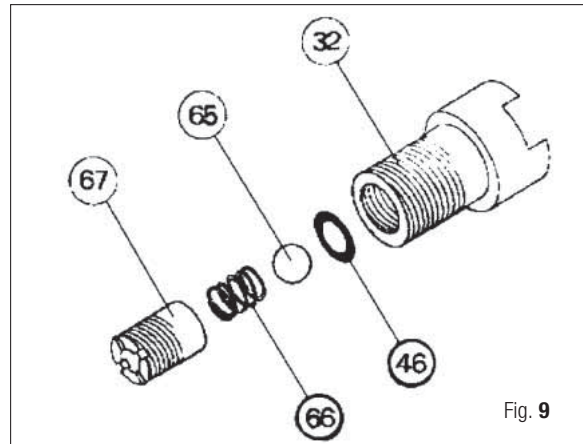

Fig. 9
28. With a Philips screwdriver, remove the inlet bushing (67) and spring (66) (Fig. 9).
29. Remove ball (65) from the inlet valve body (32).
30. Remove O-ring (46) from the inlet valve body.
31. Slide handle (41) rearward off of the barrel (26).
32. Remove O-ring (37) from O-ring seat (39) of the power adjustment rod.
33. With a 7 mm wrench, unscrew power adjustment rod (34-35-37-39) from power adjustment lever (38).
21. Position o-ring (46) in inlet valve body (32) seat, with tool (A-13) (Fig. 9).
22. Center the inlet ball (65) on o-ring (46).
23. Place spring (66) inside of the inlet bushing (67).